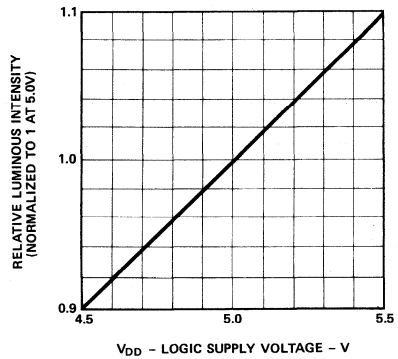
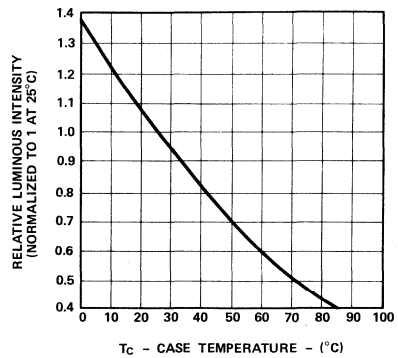

Figure 4. Relative Luminous Intensity vs. Logic Supply Voltage
Figure 5. Relative Luminous Intensity vs. Case Temperature
- See Figure 4 for relative luminous intensity versus ambient temperature. See Figure 5 for relative luminous intensity versus logic supply voltage.